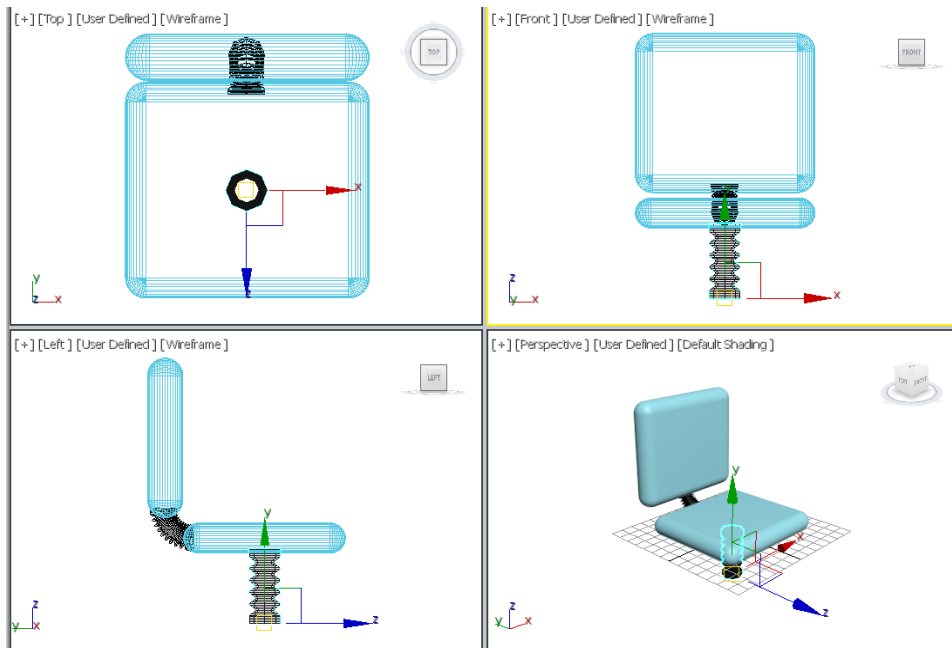

Figure 3-37 Alignment of leg support in the viewports
4. Choose the **Select and Move** tool and align *leg support* in the viewports, as shown in Figure 3-37.